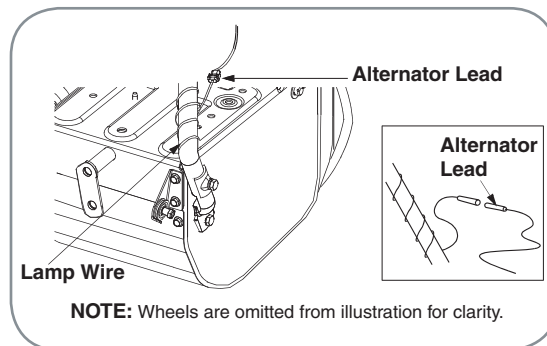

Figure 3-7
- Wrap the wire from the head lamp down the right handle until the wire can be plugged into the alternator lead wire under the fuel tank. See Figure 3-7.